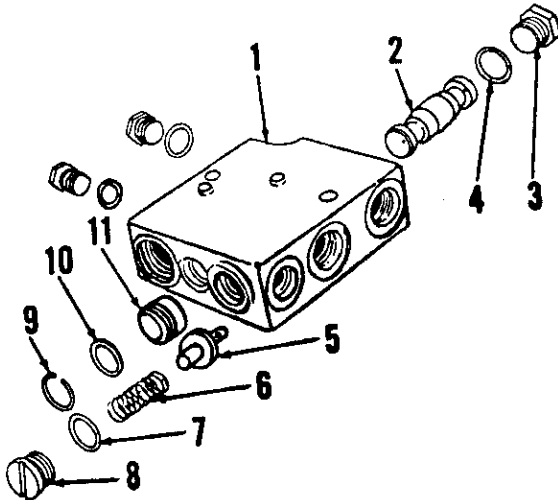

Fig. 26—Exploded view of the proportional type flow divider valve used on Series 424, 444, 2424 and 2444 tractors. Note the power steering relief valve (5).
Remove plug (3—Fig. 26) and spool (2), then unscrew slotted plug (8) and withdraw relief valve spring (6) and relief valve (5).